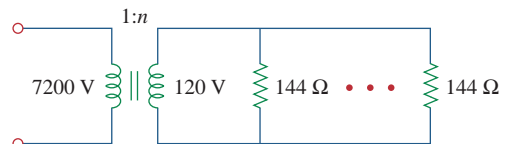

Figure 13.147
- 13.95** Ten bulbs in parallel are supplied by a $7,200/120\text{-V}$ transformer as shown in Fig. 13.147, where the bulbs are modeled by the $144\text{-}\Omega$ resistors. Find: